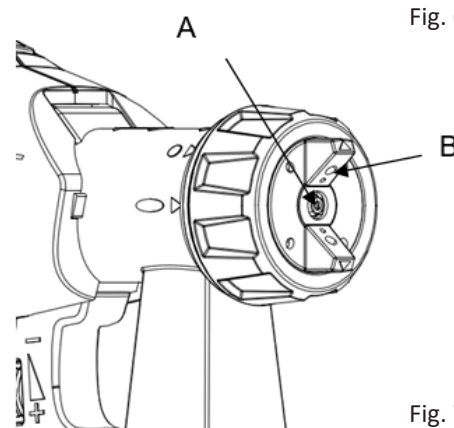

Fig. 7
- When coating material builds up on the nozzle (A) and air cap (B) (Fig.7), clean both parts with a solvent or water.